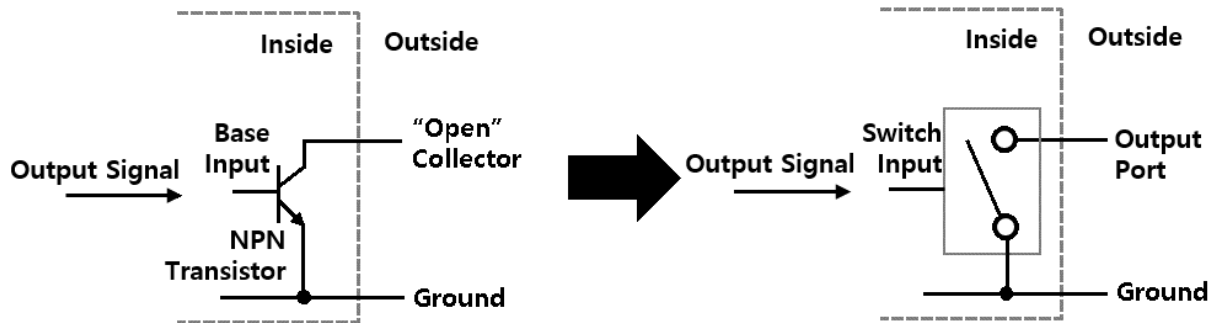

Figure 8-1. Open collector output and switch
An open collector is a common type of output scheme which functions like a switch where the output port is either connected to the ground (ON) or disconnected (OFF) as shown in figure 8-1. The port does not output a particular voltage/current but is connected with the base of an internal NPN transistor whose collector is externalized ("Open" Collector). External circuits determine the voltage/current.